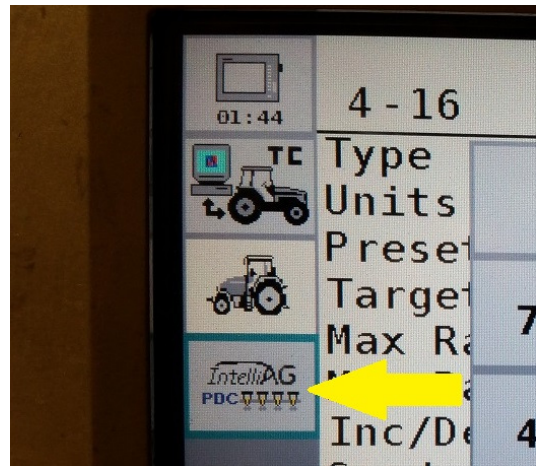

Figure 4
Step 6. Once data has uploaded, locate Dickey-john PDC icon and select. (Figure 4)